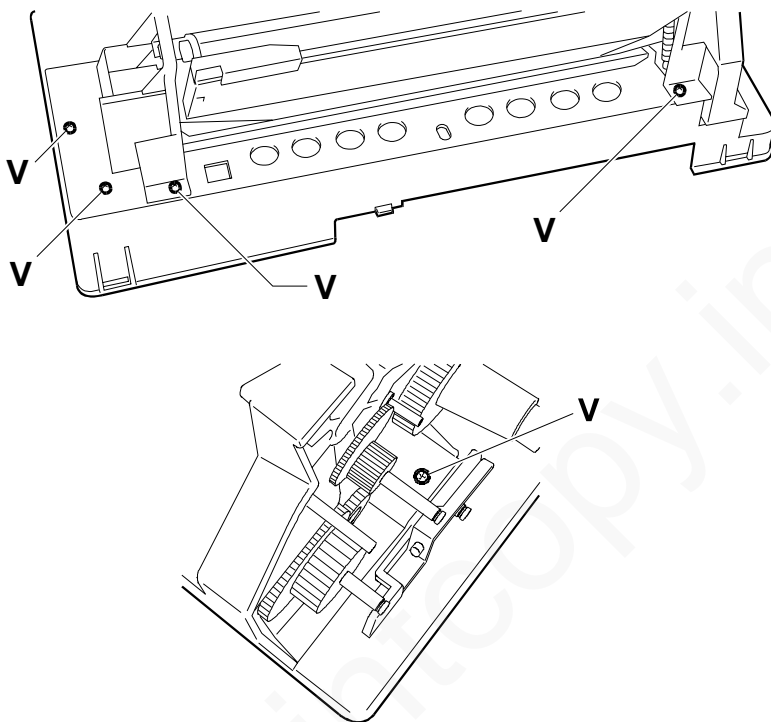

Fig. 7-28
5) Remove the five screws **V** and remove the paper tray assembly (Fig. 7-28):